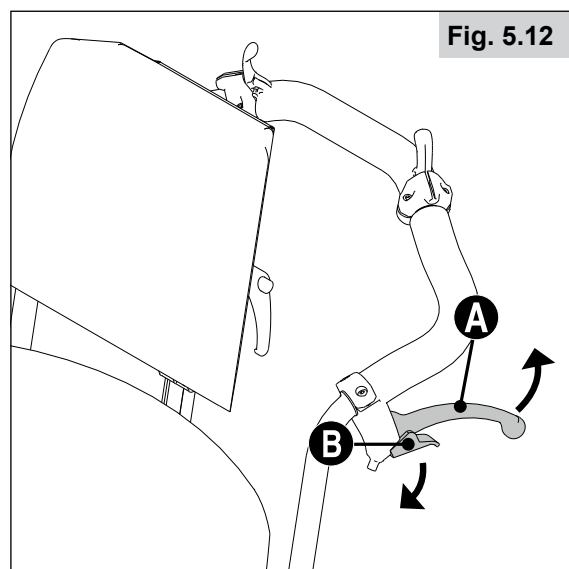

Fig. 5.12
They can also be set with the aid of a locking lever (B) to prevent rolling. The lever must snap audibly into place. Drum Brakes are not influenced by air pressure inside the tyres (Fig. 5.12).